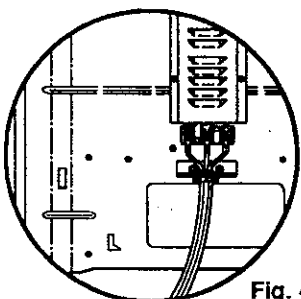

Fig. 4A
- Remove the junction block access cover (on range back). See Fig. 4A or Fig. 4B. Some models will have a one-piece wire cover as shown in Fig. 4B. When reinstalling the one-piece wire cover, make sure that wire does not become pinched between wire cover and mainback.